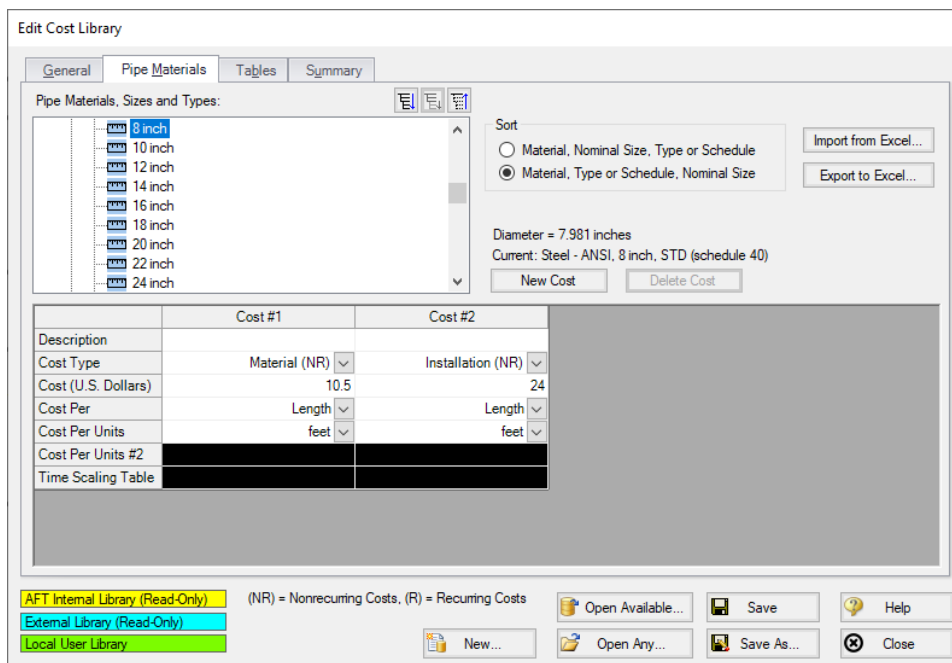

Figure 4: Non-recurring pipe costs, such as material and installation costs, are entered on the Pipe Materials tab
Each pipe size in this example has two non-recurring (NR) costs associated with it. The costs to be entered are the material and installation costs. You will need to make a second column and change Cost Type to Installation (NR). Figure 4 shows the costs entered for 8-inch STD Steel - ANSI.